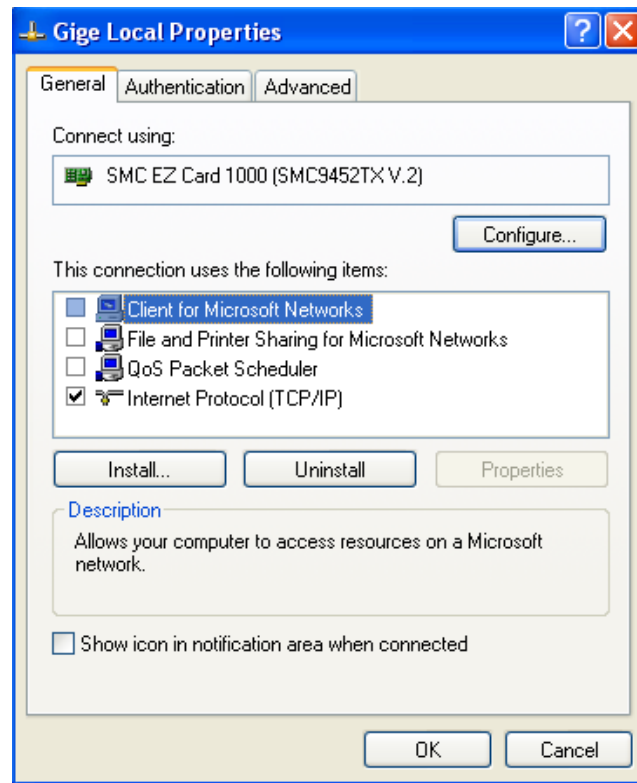

Figure 8. Network card main properties window.
- Open the Network Connections Dialog as follows: From the Windows desktop select *start*, then select *Control Panel*, then double click on the *Network Connections* icon. Double click the relevant network card listed or right-click the relevant network card and select *Properties*. This will open the properties window for your network card. See Figure 8.
- From the main properties dialog as in Figure 8, make sure that only the **Internet Protocol (TCP/IP)** check box is selected then click **OK**. The card is now optimized for use with the Prosilica camera.